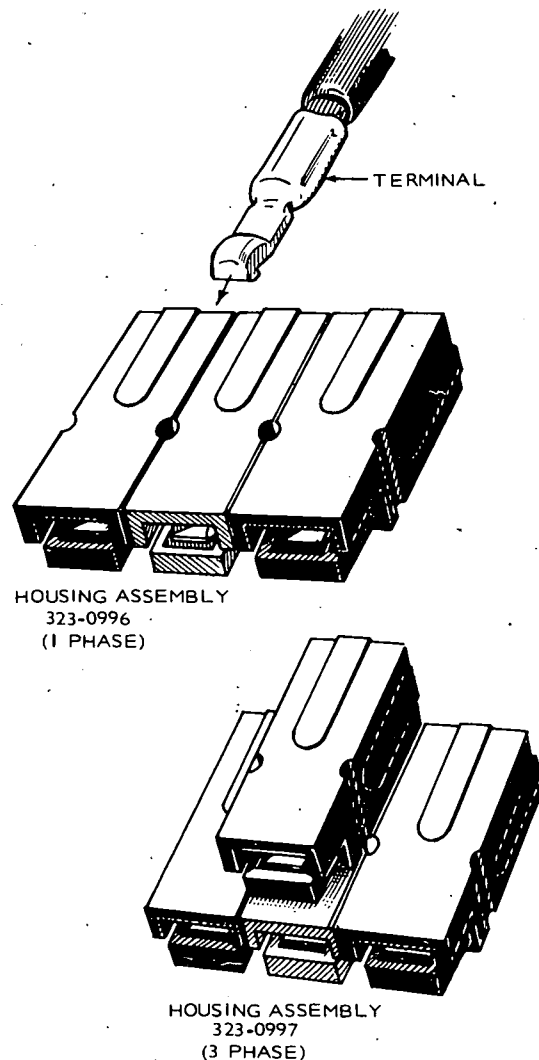

FIGURE 11. SINGLE AND THREE PHASE PLUGS
- e. Assemble cable terminal ends into plug housing assembly as indicated in Figure 11. The terminal just snaps into the plug and is retained by a flat spring.